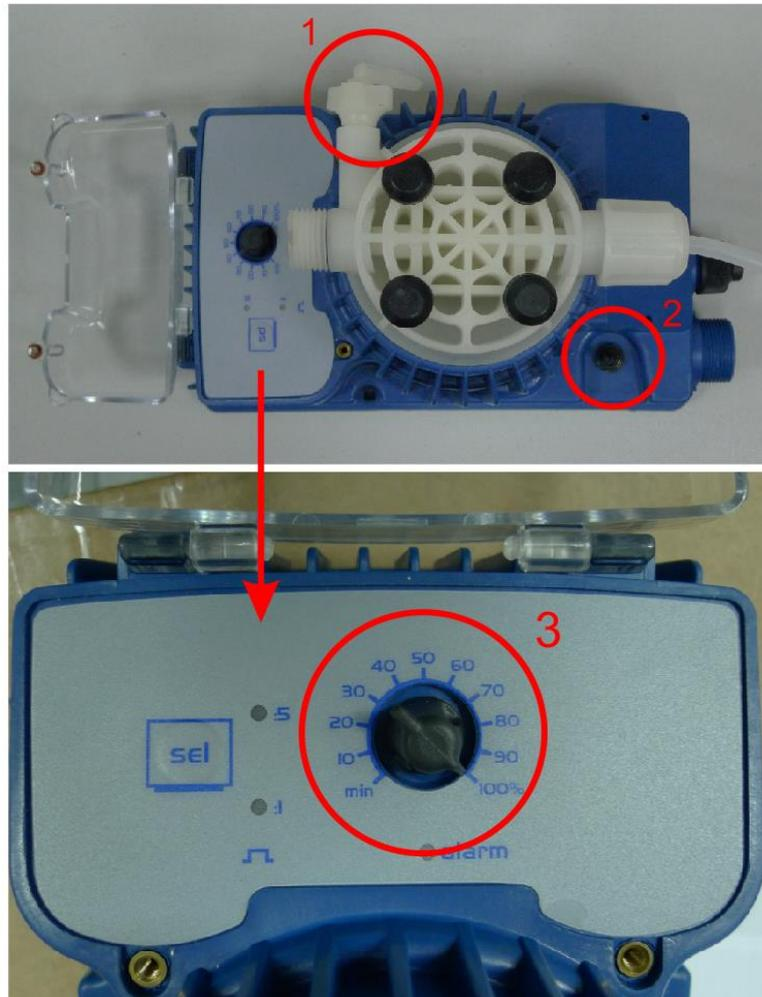

Fig. 8. Oil supply adjustment
Oil flow regulator locates directly at the oil pump (item 3, Fig. 8). The small potentiometer (see Fig. 8) which allows to regulate the oil flow from 0% to 100% locates on the oil pump body.
In order to resume the oil supply, you should remove air from the pump membrane. Unscrew the special valve (2-3 turns) which is located on the pump body (fig 8, item 1). Connect the silicone tube to the pump (included in the set). Dip the oil-intake pipe into the oil tank. Make several long draws with the mouth through the silicone tube until the oil fills the pump membrane.